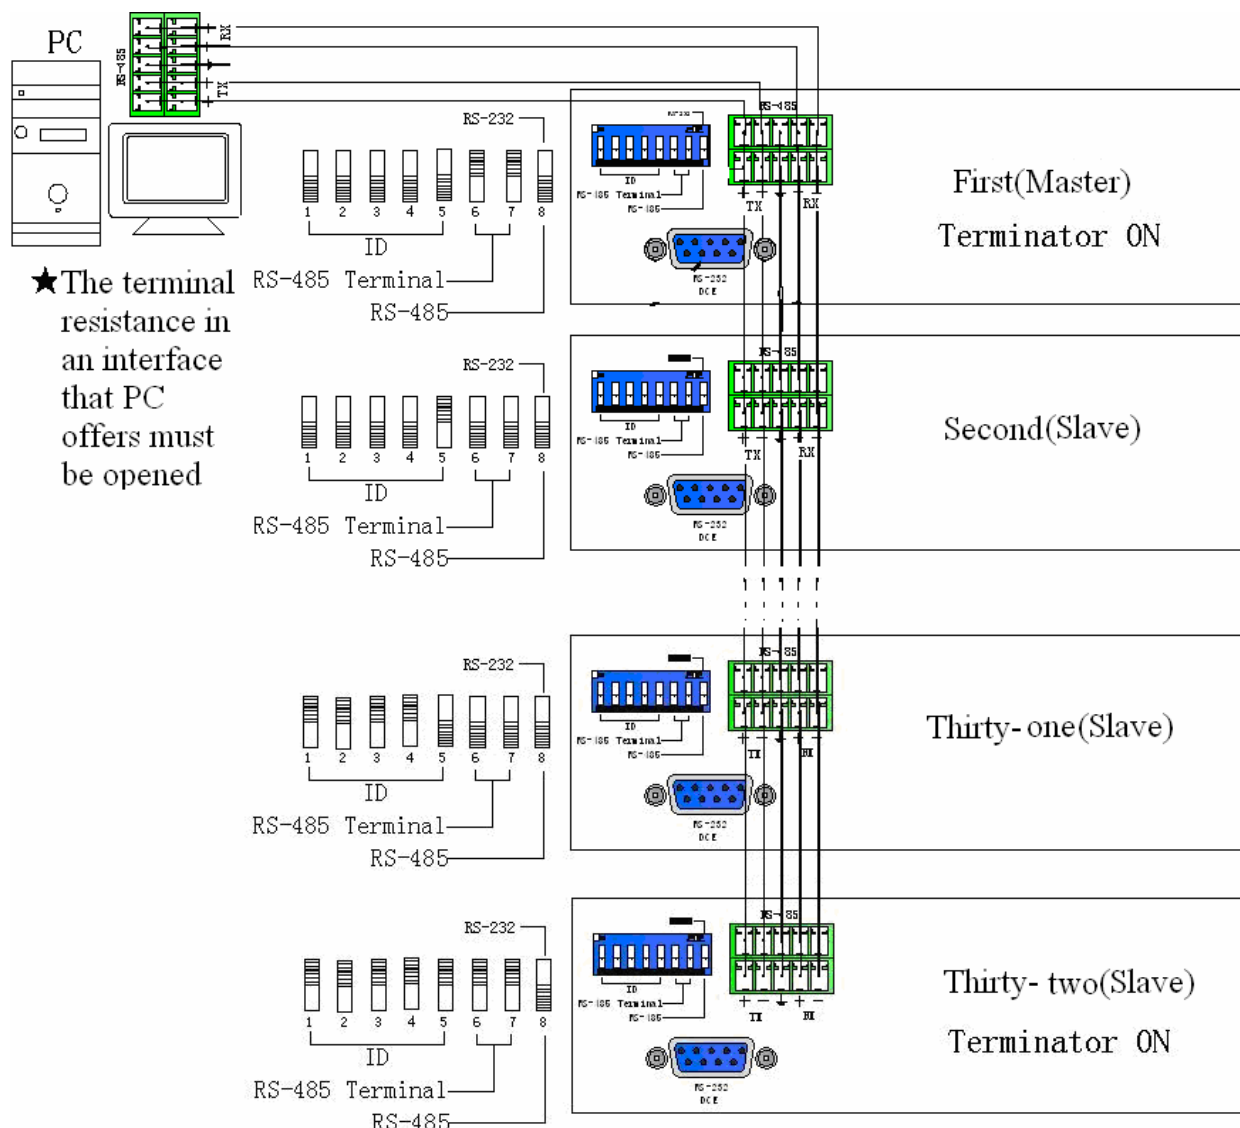

Figure 5-10
B. If PC provides RS-485, connection is as in Figure 5-10 below: